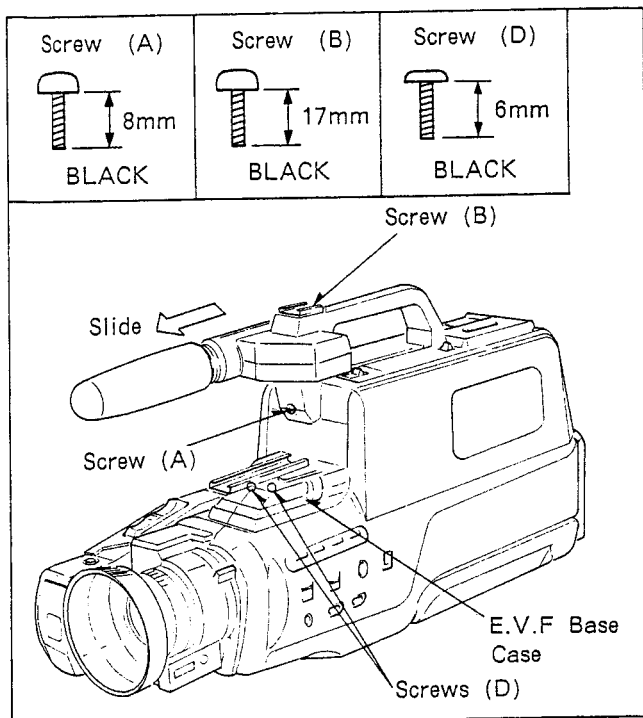

Fig. D3
- (1) Remove 2 Screws (D) shown in Fig. D3.
- (2) Remove the E.V.F. Base Case.
- (3) Remove 2 Screws (E), 2 Screws (F), 2 Screws (G) and Screw (H).
- (4) Lift the Side Case (R) Unit slightly. Then disconnect 4 Connectors on the Side Case (R) Unit.